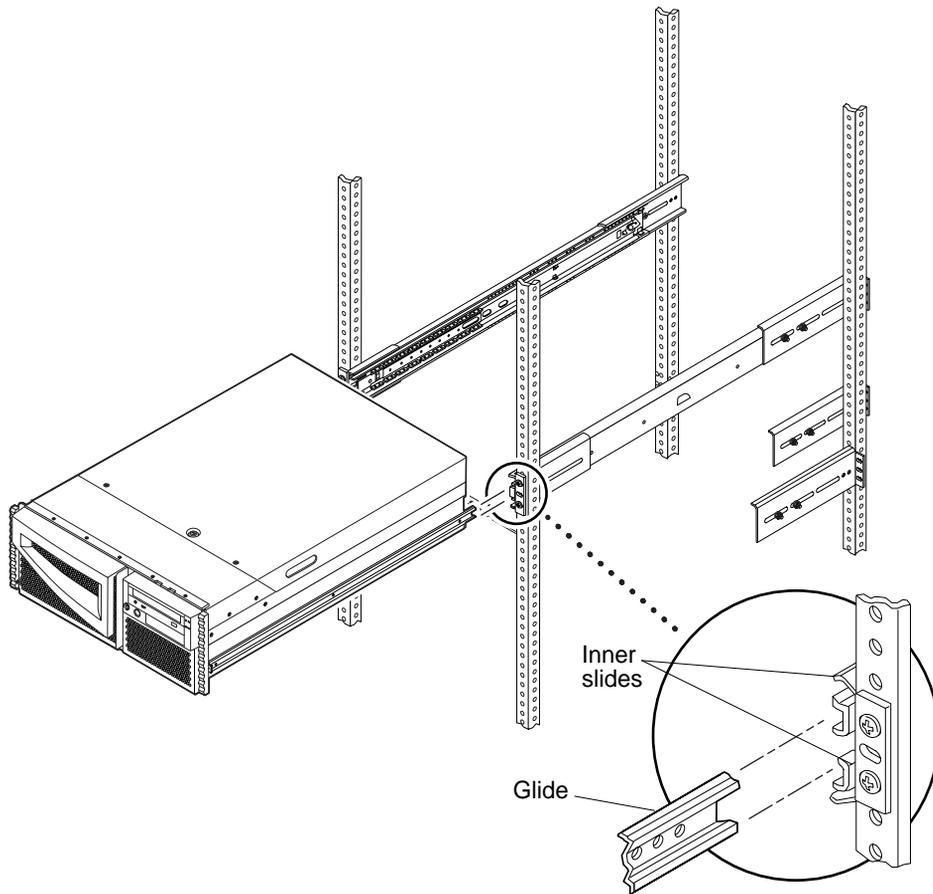

FIGURE 9-13 Inserting the File Server or Compute Engine Glides Into the Inner Slides of the Rack Glides
5. **Insert the file server or compute engine glides into the inner slides of the rack glides (FIGURE 9-13).**